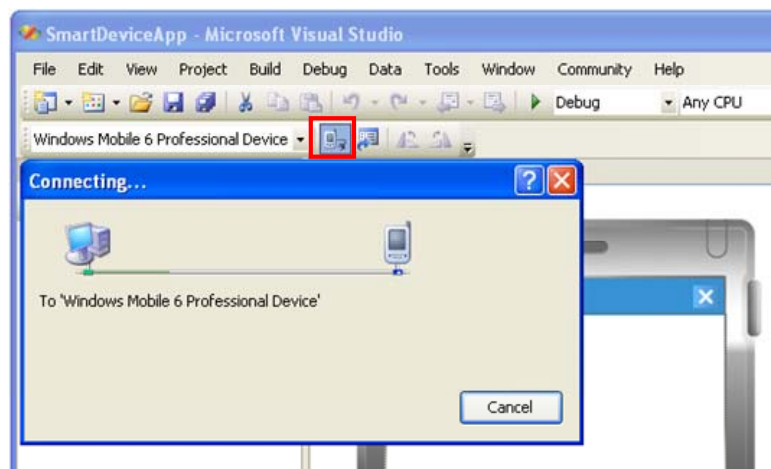

Figure 6.2
4. Click the button shown in the red box below (see Figure 6.2) to make sure that Visual Studio 2005 has recognized the connection established with the IT-800 via ActiveSync. If it does not, start up ActiveSync again to establish connection.